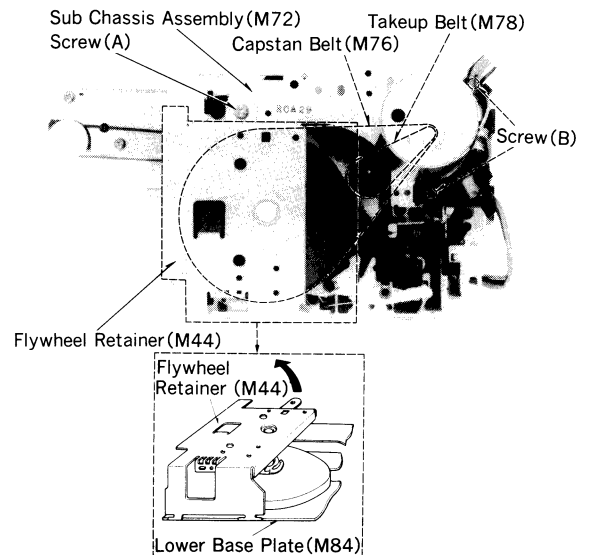

Fig. 1
1. Remove screw (A), and then detach flywheel retainer (M44) by pulling it in the direction of the arrow as in fig. 1.
2. After removing screws (B), detach takeup belt (M78) and capstan belt (M76), and then sub chassis assembly (M72) can be removed. (fig. 1, 2)